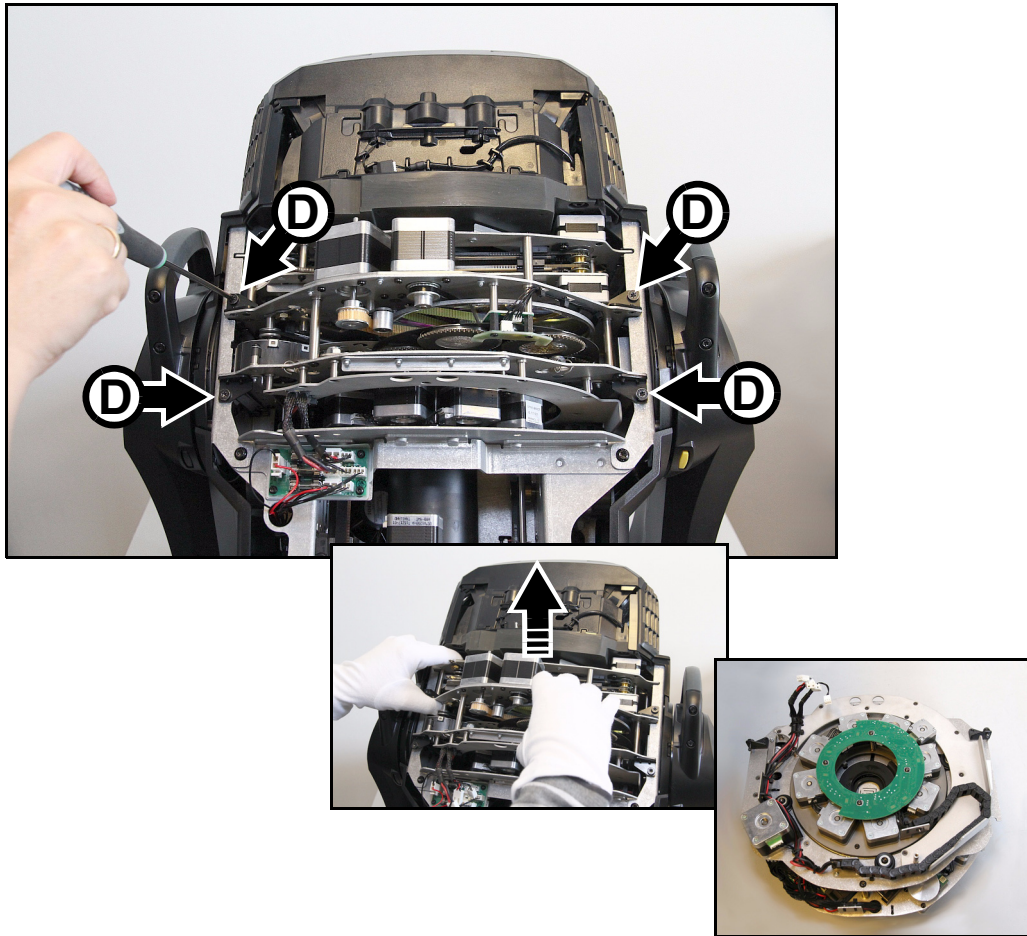

Figure 12: Removing the multi-module
4. See Figure 12. Loosen the four Torx 20 screws **D** (arrowed) to release the multi-module, then lift the module out of the head and place it on a work surface as shown in Figure 12.